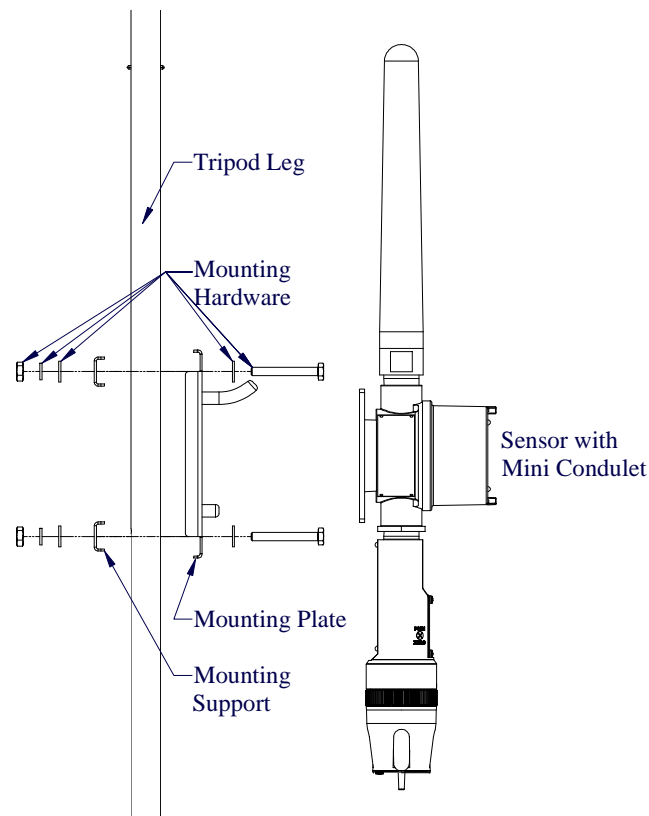

Figure 13 Attach Sensor Brackets to Tripod
3. If wired gas sensors are being used with the controller, attach the sensor mounting brackets to the tripod legs using the supplied 1/4" bolts, nuts and lock washers in accordance with Figure 13.